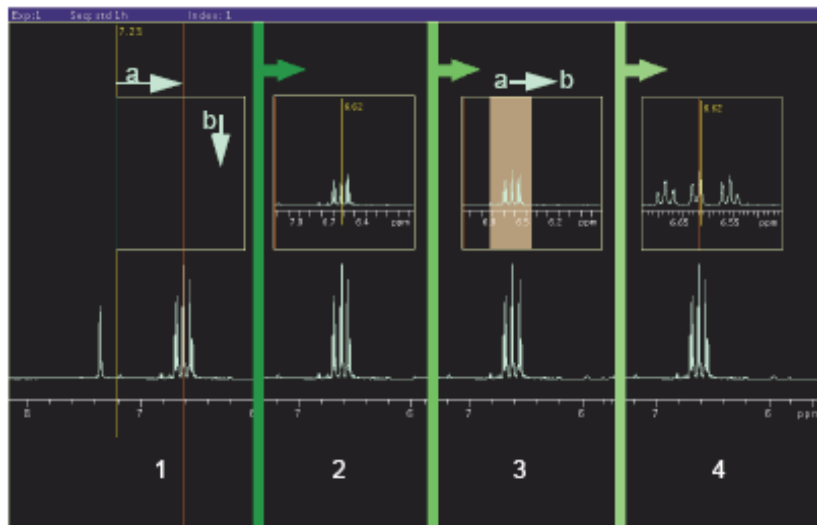

Figure 29 Creating an inset frame
- 2 Place the cursor at the low field (left) side of the region to be expanded as shown in Figure 29 frame 1a.
- 4 Drag the cursor down to set the height of the inset frame as shown in Figure 29 frame 1b.
- 5 Release the mouse button to create the inset frame, see Figure 29 frame 2.
- 5 Place the cursor at the low field (left) side of the region to be expanded as shown in Figure 29 frame 3a.
- 6 Hold the left mouse button down and drag the inset window to the high field (right) side of the region, Figure 29 frame 3b.
- 8 Release the mouse button and the selected region expands to fill the inset box, Figure 29, frame 4.